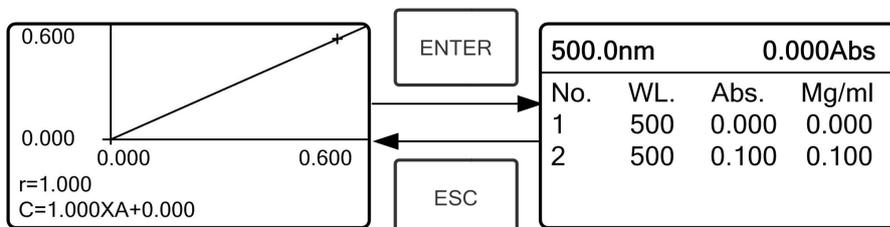
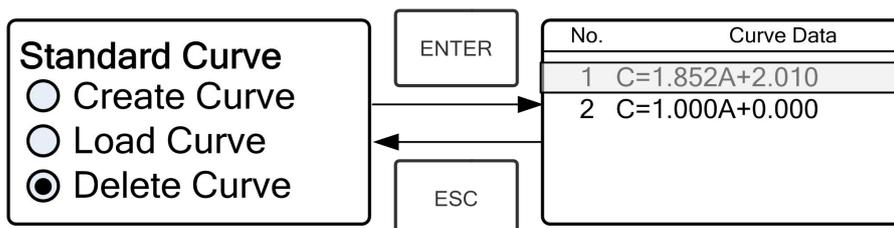

Fig. 4-14
Fig. 4-17
★ Pull the Reference solution in the light path and press to go into the continuous measurement interface. (Fig. 4-14)
- ★ Press to go into sample continuous measure interface and measure samples. (Fig. 4-14)
(7) Delete Curve
- ★ Move the cursor on "Delete Curve" and press to confirm. Then the system goes into the curve equation choosing interface. (Fig. 4-17)